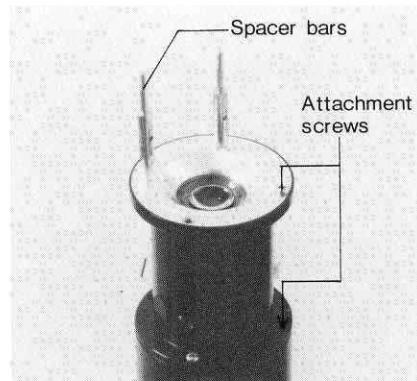

Fig. 62
- (e) Unscrew four attachment screws on the top surface of the relay lens section and use them to attach the relay lens section in place of the spacer ring on top of the condenser lens. (See Fig. 62)